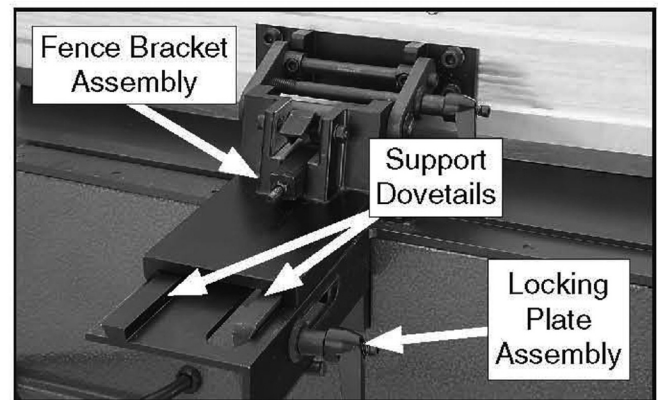

Figure 15. Fence bracket assembly positioned over dovetails.
6. Slide the fence bracket assembly onto the support dovetails, as shown in **Figure 15**.